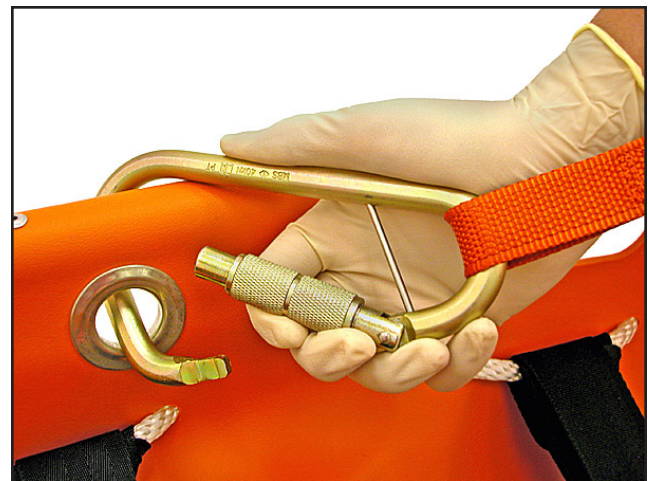

Figure 5 - Attach the Carabiner With the Gate Facing the Inside of the Stretcher
2. Squeeze the gate open and slide the nose of the carabiner through a tie-in point (grommet) on the basket stretcher (Figure 5).